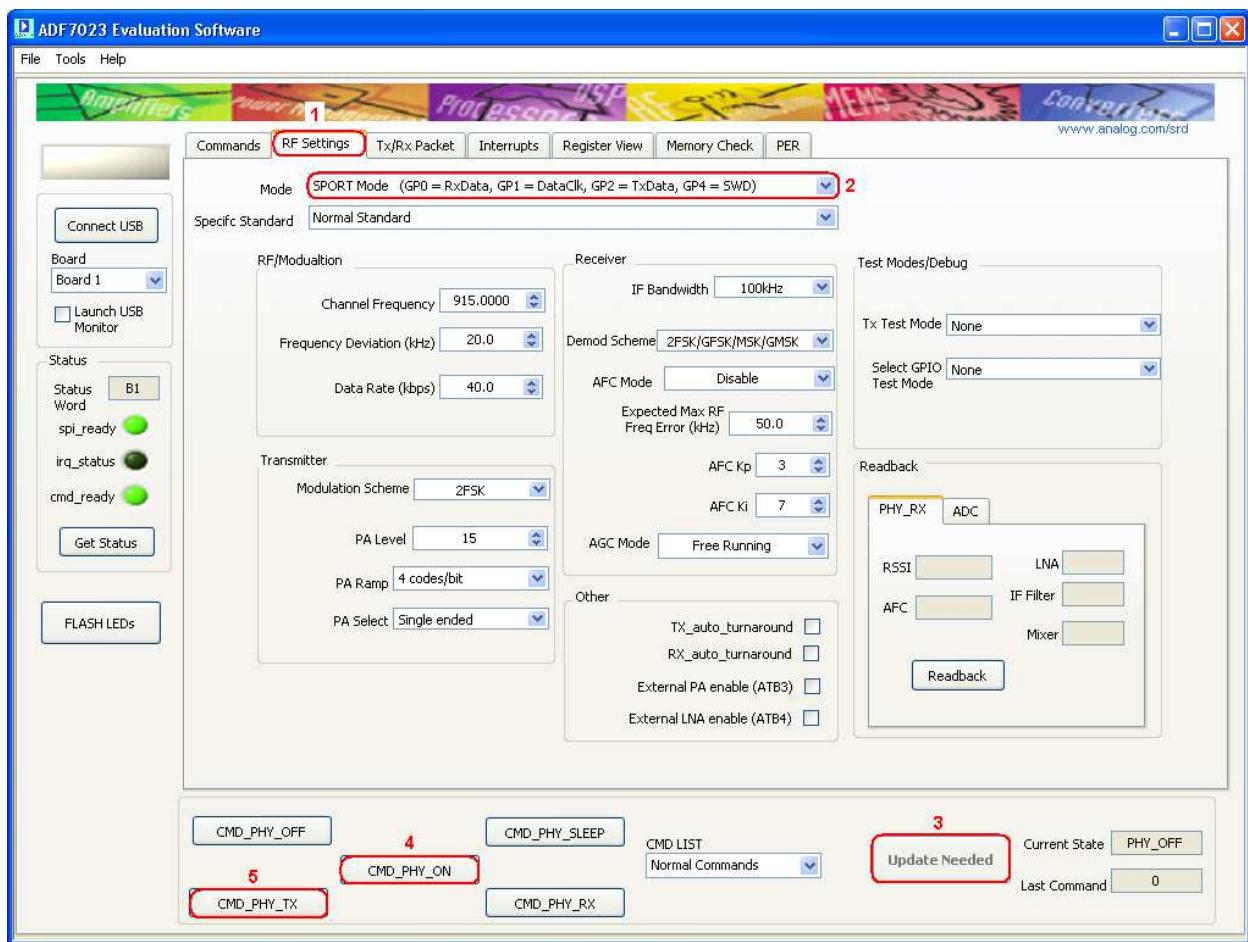

Figure 29
1. Select the “**RF Settings**” Tab and set the RF parameters as required. (*Figure 29 point (1)*)
2. Select the **SPORT Mode**. (*Figure 29 point (2)*)
3. Ensure part is in **PHY ON** (*Figure 29 point (4)*)
4. Press **Update Needed**. This writes the settings to BBRAM and then does a CMD_CONFIG_DEV. (*Figure 29 point (3)*)
5. Press “**CMD PHY TX**” to enter transmit mode (continuous carrier transmission) (*Figure 29 point (5)*)
6. To exit **PHY TX** press **CMD PHY ON** (*Figure 29 point (4)*)